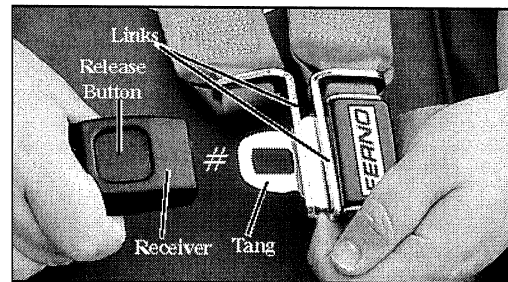

Figure 1 - Fastening Restraint
2. Fasten restraint by sliding tang through both shoulder links and into buckle receiver slot until it locks into place (Figure 1).